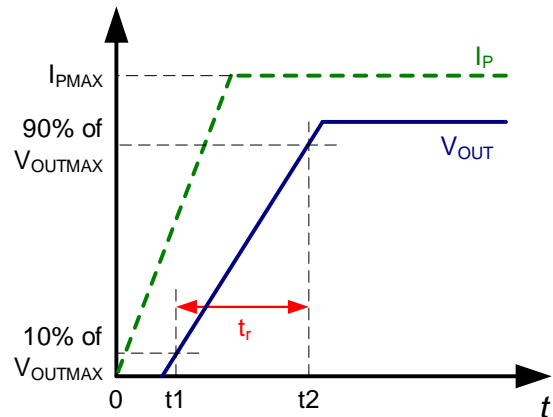

Figure 7: Rise Time (t_R)
2. t_2 : The sensor's V_{OUT} reaches 90% of its full-scale value (see Figure 7).